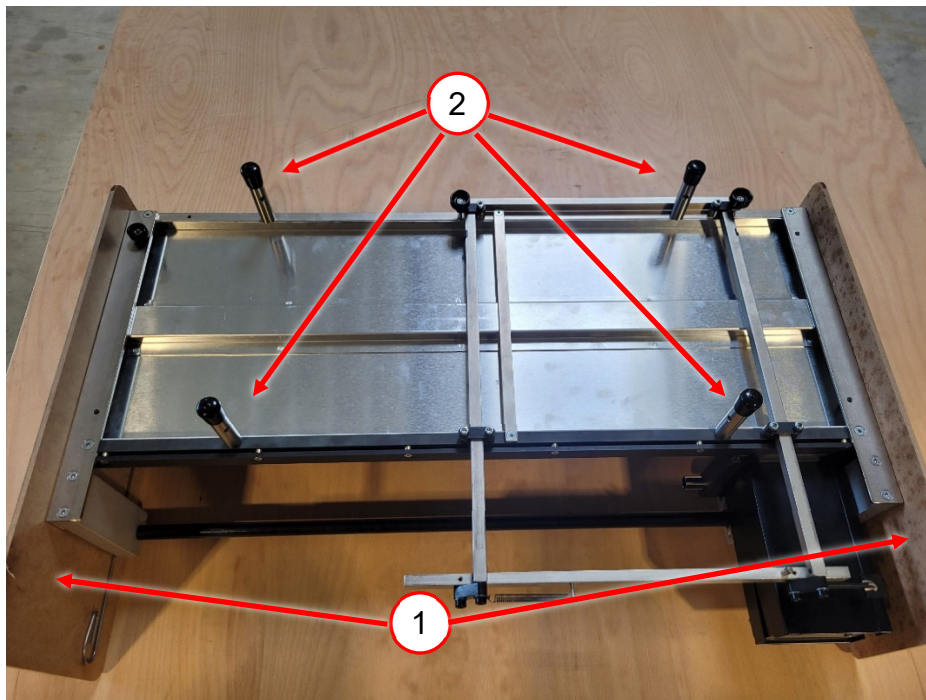

Figure 40 Fitting the feet VARGA VA 1
4. Screw the four feet (2, Figure 40) under the frame and tighten.
6. Remove the transport plates (1 Figure 40).